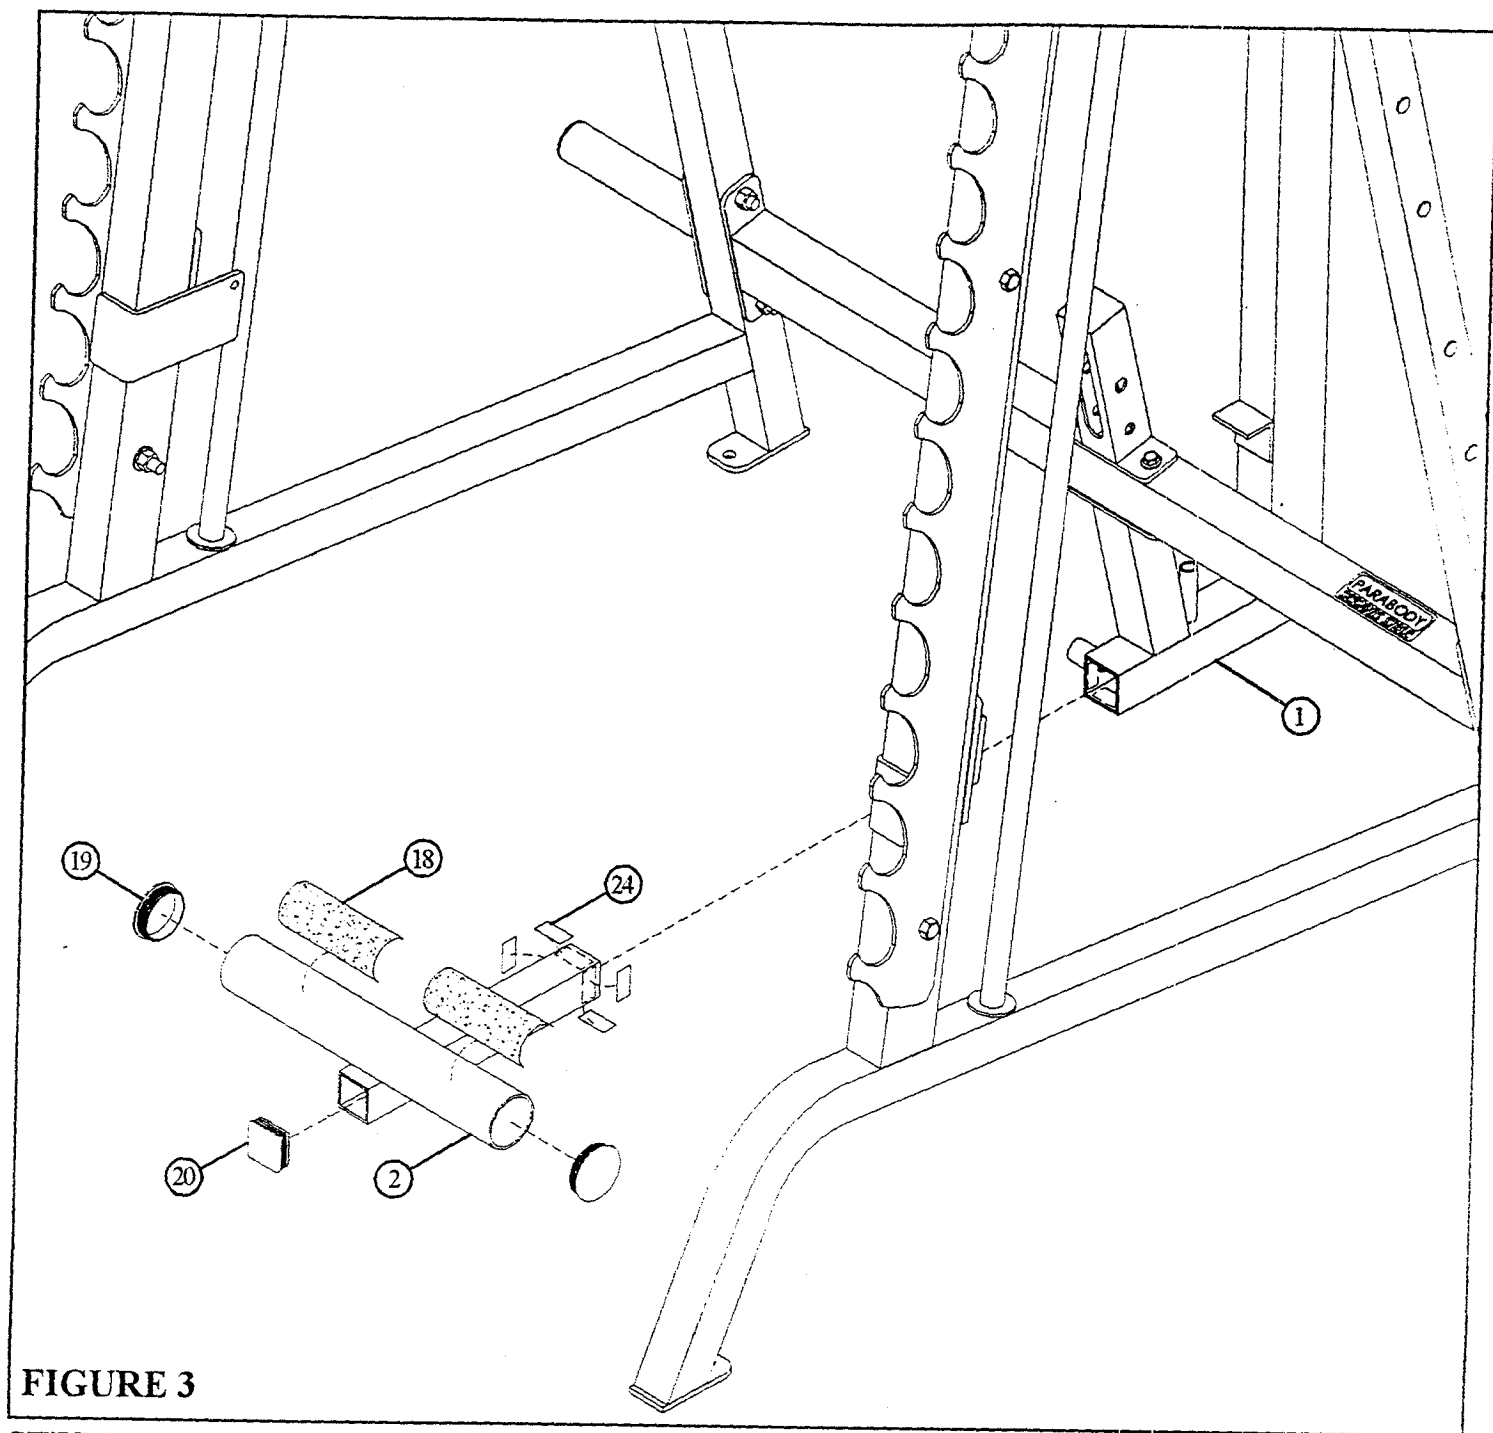

FIGURE 3
- Thoroughly clean all surfaces where the 3/4 X 1-1/2" GLIDES (24) are to be attached.
- Remove the 3/4 X 1-1/2" GLIDES (24) from the paper backing and firmly apply them to all shown surfaces.
- **SECURELY** assemble one SPRING PIN ASSEMBLY (21) to the spring pin barrel on the UPRIGHT (1). See FIGURE 3.
- Insert two 2-1/2" ROUND END CAPS (19) into the ends of the ADJ. FOOT SUPPORT (2) as shown in FIGURE 3.
- Insert one 1-3/4" END CAP (20) into the end of the ADJ. FOOT SUPPORT (2) as shown in FIGURE 3.
- Apply two 2-1/2 X 5-1/2" NON-SKID STRIPS (18) to the ADJ. FOOT SUPPORT (2) as shown in FIGURE 3.
- Attach four 3/4 X 1-1/2" GLIDES (24) to the outside of the ADJ FOOT SUPPORT (2) and four GLIDES to the inside of the tube on the UPRIGHT (1) as shown in FIGURE 3 using the following steps:
- Pull back on the SPRING PIN (21) and **CAREFULLY** insert the ADJ. FOOT SUPPORT (2) into the UPRIGHT (1) as shown in FIGURE 3.